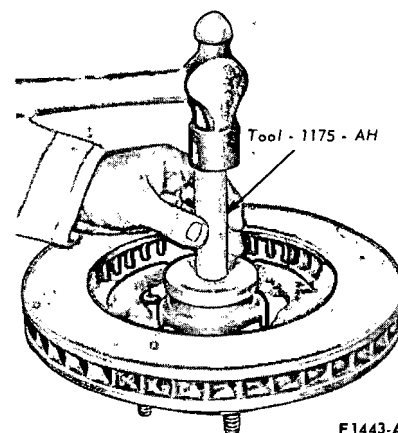

FIG. 6 Installing Grease Retainer—Disc
14. Place the inner bearing cone and roller assembly in the inner cup. Apply a light film of grease to the lips of the grease retainer and install the new grease retainer with the tool shown in Fig. 6. **Be sure the retainer is properly seated.**